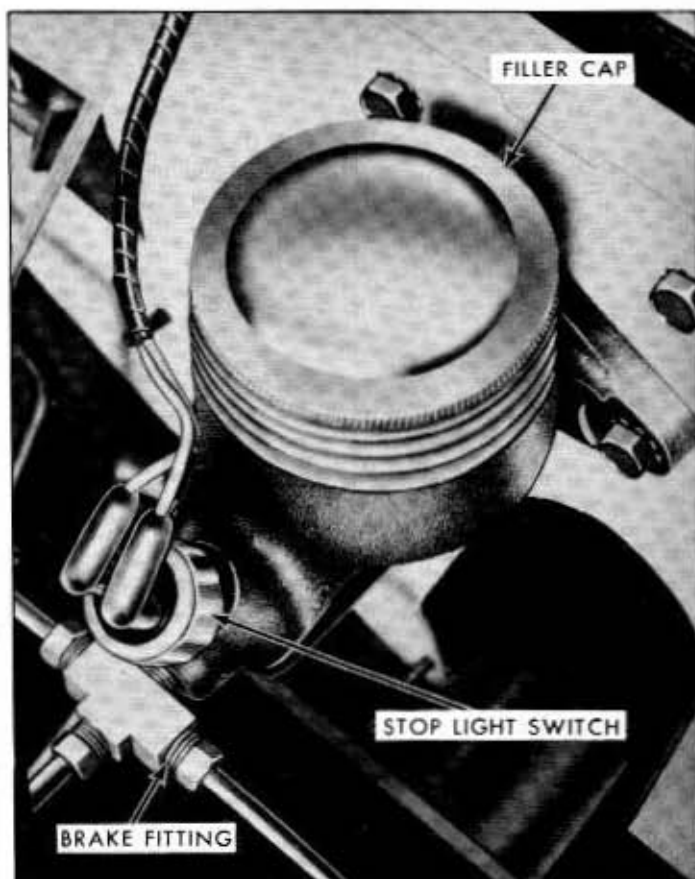

Fig. 2-6—Brake Master Cylinder—Installed—(60C-2006)
2. Disconnect the brake lines from the brake fitting and disconnect the stoplight wires. See figure 2-6.
2. Install the brake fitting on the forward end of the cylinder. See figure 2-6.